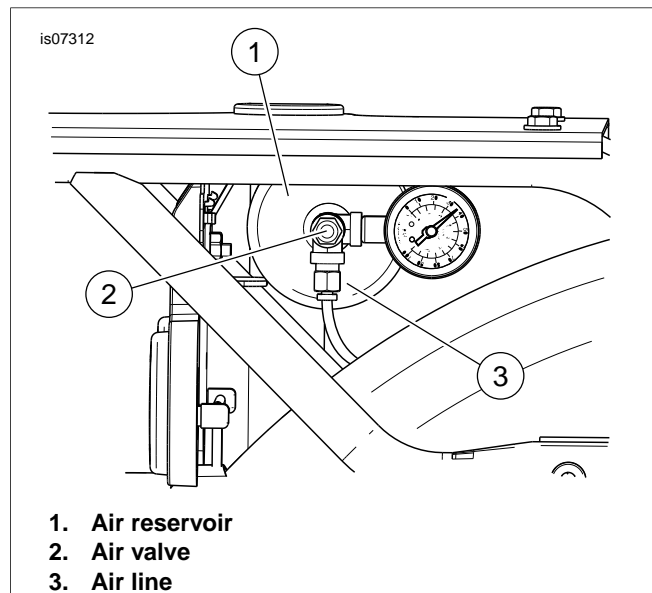

Figure 1. Seat Air Valve
1. See Figure 1. Press the air valve (2) to relieve the air pressure from the seat air spring and reservoir (1). Disconnect the air line (3).